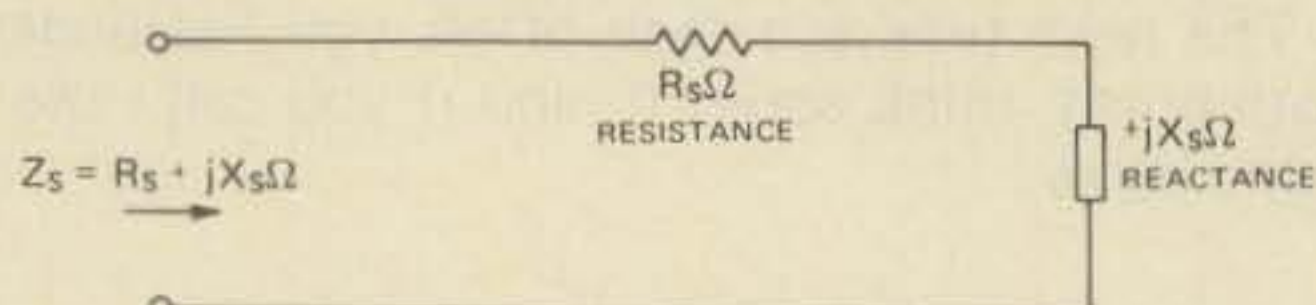

Fig. 1 -  $Z_s = R_s \pm jX_s$  ohms defined series connected resistance and reactance.
The use of impedance the expression implies a *series* combination of a resistance and reactance as shown in fig. 1. If the reactance is inductive, it has a plus sign; if the reactance is capacitive, a negative sign is used. Mathematically speaking, equation (2) is a complex number, as evidenced by the imaginary operator j in front of the reactive terms, so that impedances must be manipulated in accordance with the laws of complex numbers. This will not pose any problem, though, in the work we will be doing.